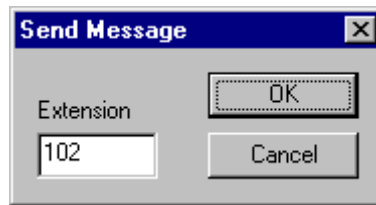

Figure 29. Send Message
7. From the **Options** menu, choose **Send Message**. The *Send Message* pop-up is displayed, as shown in *Figure 29*.